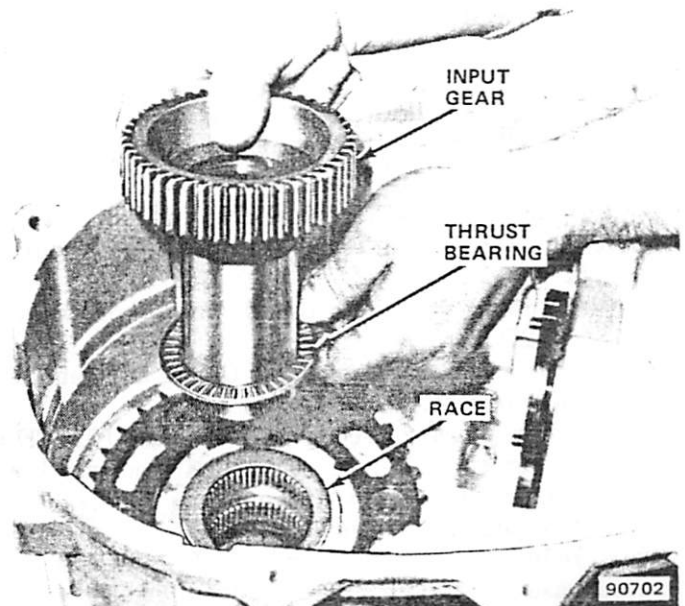

Fig. 2D-62 Input Gear and Thrust Bearing Removal/Installation
(1) If bearing cannot be removed by hand, remove it using Slide Hammer J-2619-01 and Remover J-29369-1 or similar internal type blind hole bearing puller (fig. 2D-33).
(2) If necessary, install new bearing using Driver Handle J-8092 and Installer J-29174. Be sure bearing is flush with bore (fig. 2D-34).
(1) Remove snap ring and remove bearing using rawhide mallet or brass punch.
(2) Install new bearing using Tools J-8092 and J-7818 (fig. 2D-25).
(3) Install bearing snap ring.